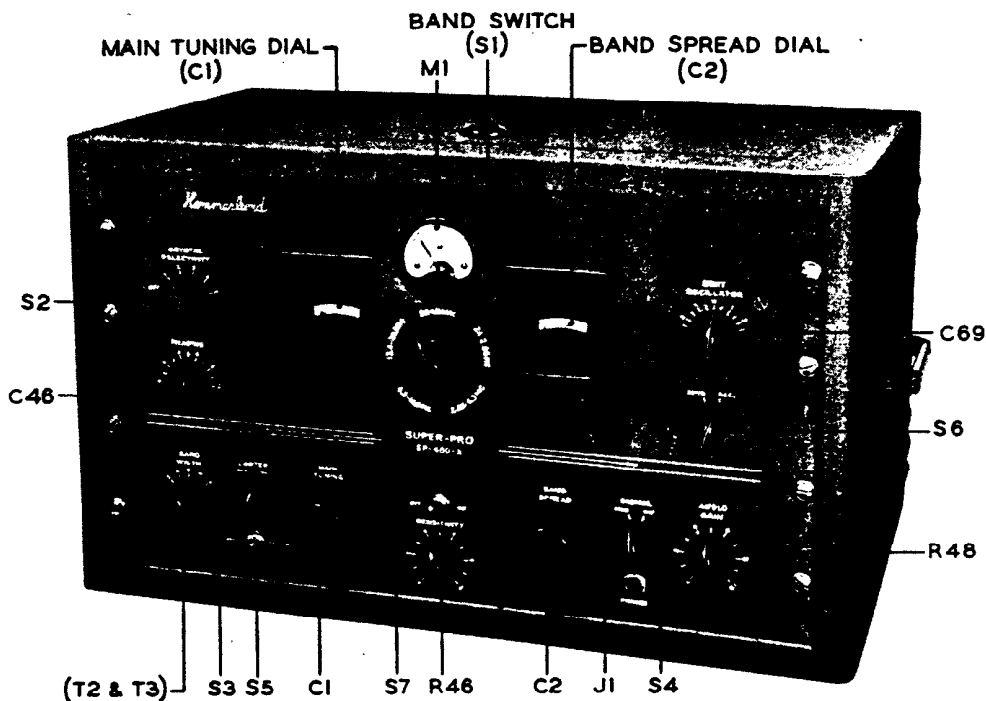

FIG. 2—Lay-out of controls referred to in text.
panel (FIG. 2). Select the desired band by turning the BAND SWITCH knob right or left to the band indicated.
e. *Earphones:* Plug a headset into the PHONES jack (J1, FIG. 2), or connect it to screw terminals marked PHONES on rear of chassis. No matching transformer is necessary (see PAR. 20b).
h. Line Switch: Turn the OFF-ON switch (S7, FIG. 2) on the Receiver front panel to OFF and plug the power cord of the Power Supply into the a-c powerline.
a. *Radiophone Reception:* Set the front panel controls (FIG. 2) as follows:
(1) Throw OFF-ON power switch in center of panel to ON. This puts Receiver in operation.
(2) Adjust band switch (S1, FIG. 2) to a band which is likely to be very active. This will facilitate the process of getting familiar with the various adjustments. If interference is not serious, BAND WIDTH control can be adjusted to a wider band width (higher number), depending upon the degree of fidelity desired. In general, adjust this control to band width giving best tone with least interference.
(3) Do all tuning, with or without the meter with BAND WIDTH control set at 3. Other settings give wider bands, making exact tuning difficult. Make band width adjustments *after* signal is tuned properly.
(4) LIMITER-OFF-ON control turns noise limiter on and off. The noise limiter will be most valuable on the higher frequencies, where interference from automobile ignition system is most bothersome.
(1) On strong signals, do not turn SENSITIVITY control all the way on, because it will cause overloading. If the AUDIO GAIN control is set at 7, it is possible to regulate volume by using only the sensitivity control.
(2) To turn on the beat oscillator, set SIGNAL-MOD-CW switch at CW. The BEAT OSCILLATOR control varies the pitch of the beat between oscillator and incoming signal. Use beat oscillator for code reception and for locating weak modulated signals.
(3) Fading signals can be improved by returning AVC-MANUAL switch to AVC.
d. *Receiver Silencing:* Receiver can be silenced by flipping the SEND-REC switch (S6, FIG. 2) to SEND. This operation opens the